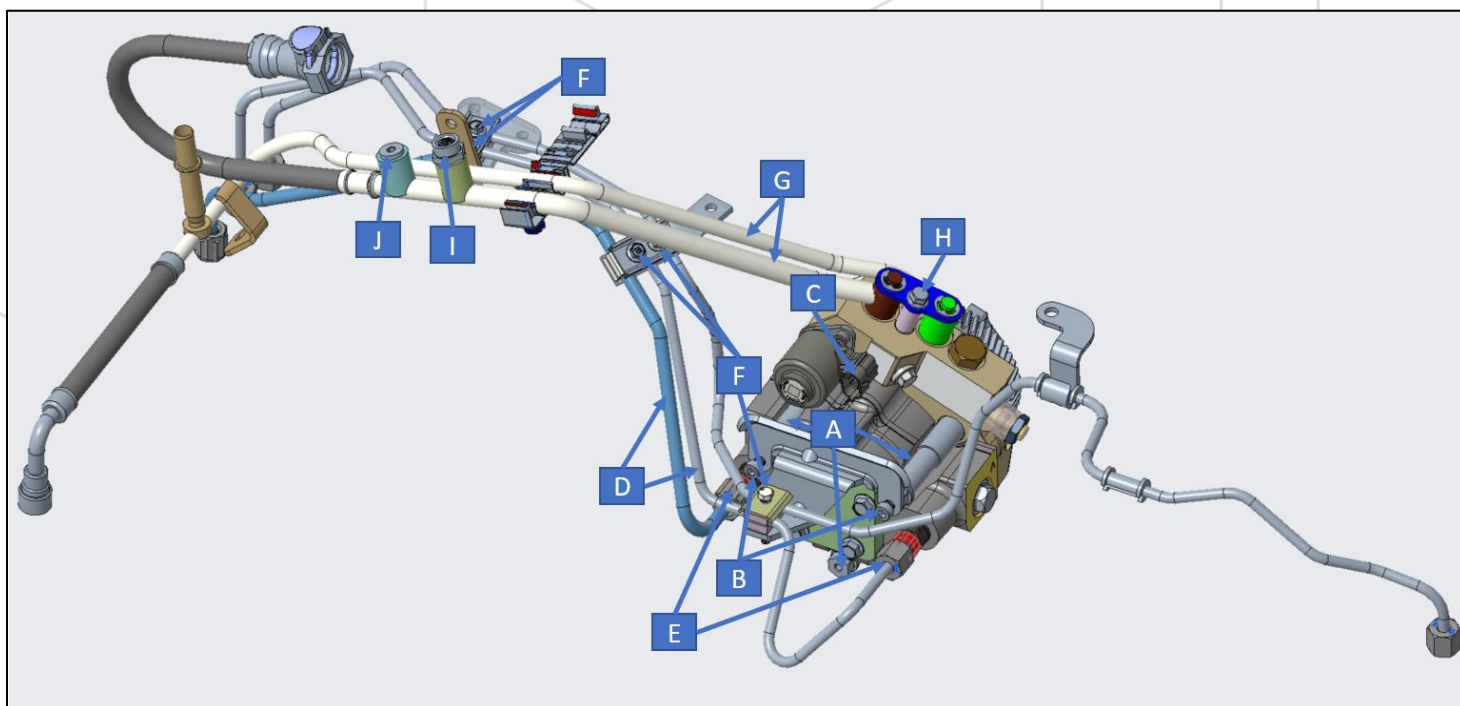

Figure 30: DCR Pump Assembly
11. Use the three OEM pump mounting stud / nuts to secure the pump in place (Labeled as A in Figure 30).
- Install the provided High-Pressure Fuel Line Tail Support Bracket to the OEM pump mounting nuts reusing the factory bolts (Labeled as B in Figure 30).
17. Connect the fuel control actuator (FCA / VCV) electrical connector to the pump (Labeled as C in Figure 30).
22. Install the supplied low-pressure line assembly into the DCR ports (Labeled as G in Figure 30).
- b. **Install blue thread-locker on the line assembly to pump inlet OEM hold-down bolt (H in Figure 30)**
25. Connect the electrical connectors on the sensors of the new fuel supply lines (Labeled as I and J in Figure 30).